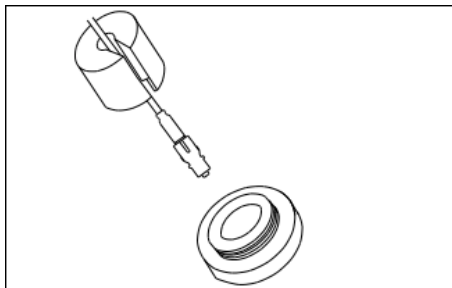

Figure 14a: Insert the 906 or 906 SMArt, 944 FC or 954 SC connector into the appropriate polishing disk and assemble the handle until it seats completely.
16. Slide a sheet of 12-micron lapping film (gritty side up) into the grinding track. The lapping film should fit beneath the lips on the interior borders of the track. Install the connector into the Amphenol constant force polishing fixture (see Figures 14a and 14b). If the connector is assembled into the polishing tool correctly, slight pressure on the ferrule (be careful not to touch the fiber) with the thumbnail should result in a spring action. If this is not the case the connector should be removed and reinserted.